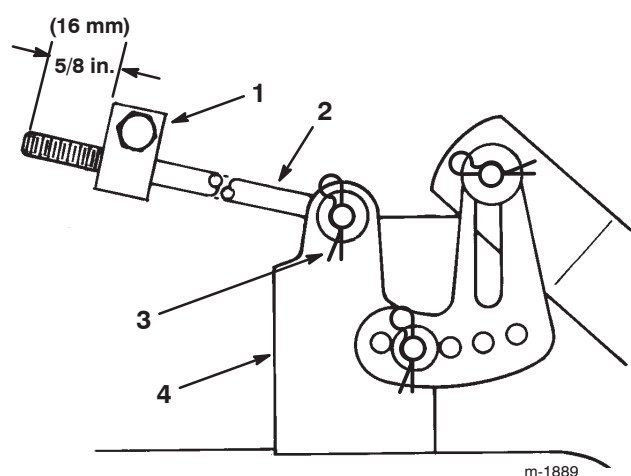

Figure 50
5. Measure the length of the rod extending out of the front of the adjusting block on the sides of the chassis (Fig. 50).
Note: If the rod length is not 5/8 in. (16 mm), remove the hairpin cotter and washer from the end of the rod (Fig. 50) and turn the rod until you obtain the 5/8 in. (16 mm) dimension.